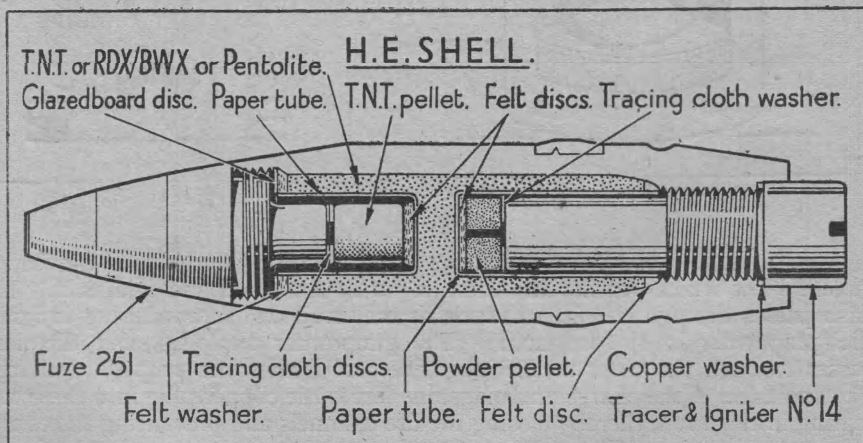

FIG. 54.
**110. Projectiles** (Figs. 54 and 55).—The projectiles used with this equipment are of streamline pattern. They are H.E., A.P., and S.A.P.